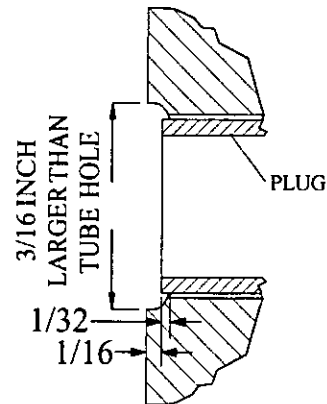

Figure 1
- 8.4.6 COUNTERBORE hole with a bit $\frac{3}{16}$ inch larger than O.D. of tube. REFER to Figure 1.
- 8.4.10 INSTALL plug into hole flush to $\frac{1}{32}$ inch above bottom of counterbore. REFER to Figure 1.